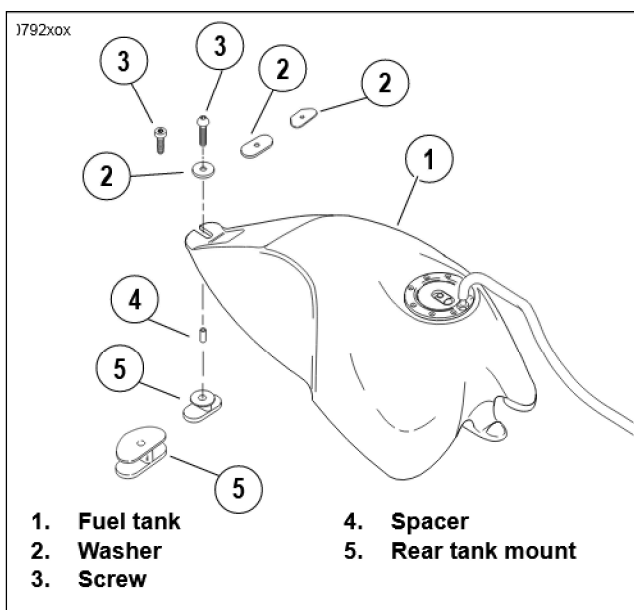

Figure 1. Original Fuel Tank Mounting Arrangement
See Figure 1. Vehicles being serviced will have varying combinations of tank mounting parts. Once removed, Items 2, 3, 4 and 5 are to be discarded.
- See Figure 1. Remove and discard fuel tank mounting screw (3) and washer (2).
- While securely holding fuel tank, carefully slide rear tank mount (5), with spacer (4), to the rear of the vehicle and away from the tank. Discard mount and spacer.